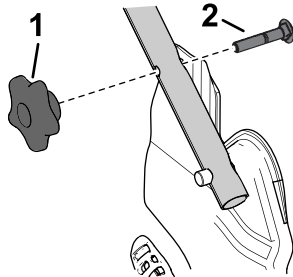

Figure 18
1. Remove and save the 2 handle knobs and 2 carriage bolts from the handle brackets (Figure 18).